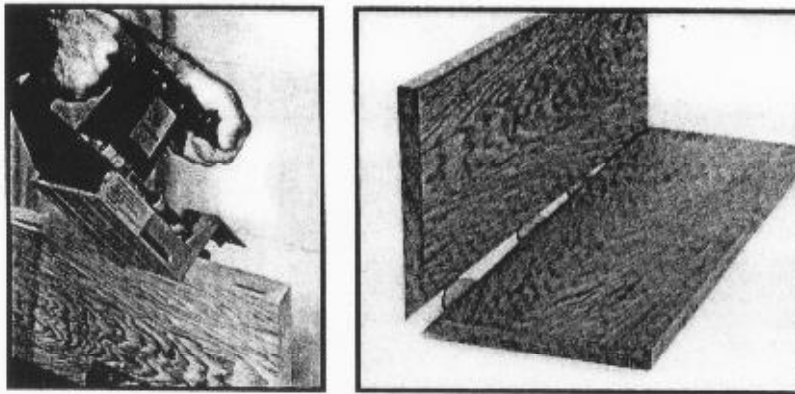

Fig. 14
6. Hold machine firmly as shown in Fig. 14, and squeeze trigger switch to start machine.
9. Repeat Steps 4 through 8 until all the grooves for this joint are completed, see Fig. 14.